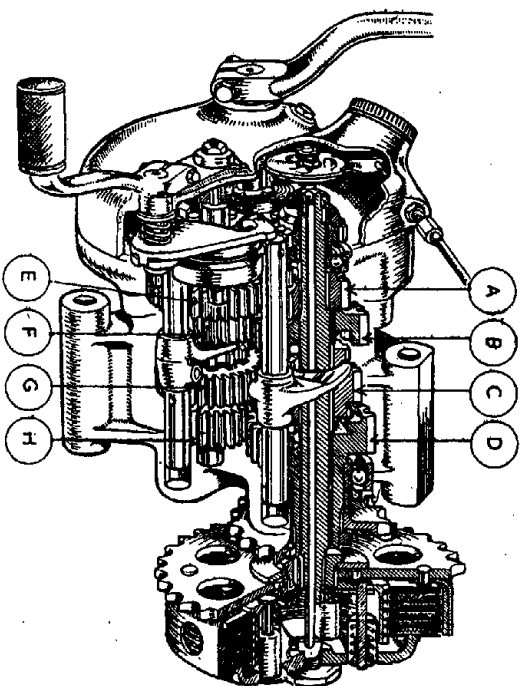

FIG. 31.—SECTION THROUGH GEARBOX SHOWING GEARS AND CLUTCH WITH ACTUATING MECHANISM.
- (1) The main driving bearing, oil seal, retaining washers and circlip.
- (2) The main gear, with spacing collars, washers, chain sprocket and tab washer, with fixing nut. Apply chain bar firmly, tighten the sprocket nut and turn down the tab-washer.
- (3) The mainshaft; through main gear.
- (4) The gears on the layshaft in the order shown in Fig. 31. The fixed pinion is fitted to the short end of the layshaft.
- (5) Hold the layshaft assembly in hand, with the fixed pinion on the left. Take up the camshaft (small pinion to the right), and engage the larger of the two striker forks in the groove for the sliding clutch.
- (6) Hold the mainshaft sliding gear, large pinion to the left, along the camshaft assembly, so that the smaller striker fork engages with its central groove.
- (7) Insert the entire assembly into the gearbox shell, sliding the mainshaft gear along the mainshaft, and push home, locating the camshaft and layshaft into the respective bushes.
- (8) Slide the remaining free pinion on the mainshaft.
- (9) Pawl, spring and slotted screw, locating gears.
- (10) The twelve rollers, with grease to hold in position.
- (11) The mainshaft ball bearing for kick-starter case; locate with circlip.
- (12) Paper washer for gearbox shell, with grease applied on gearbox face.
- (13) The kick-starter case. Ensure that the rollers enter the housing in the kick-starter case. Fit the four case nuts and firmly tighten.
- (14) The ratchet pinion bush and spring on mainshaft ratchet pinion (teeth outwards). Follow with the ratchet driver and fully tighten the fixing nut.
The general arrangement shown in Fig. 31 illustrates the internal gearbox lay-out, together with the foot-change mechanism and the kick-starter.